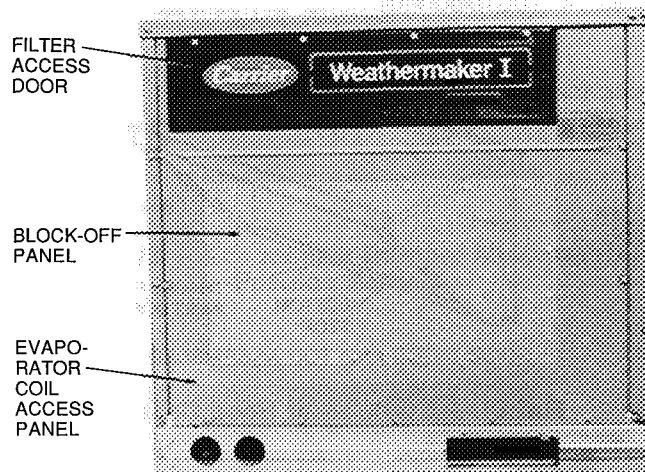

Fig. 17 — Access Panel Location
2. Remove evaporator coil access panel (see Fig. 17). Save panel and screws.
5. The block-off panel should be removed from the evaporator coil access panel and discarded. Save screws. See Fig. 17.